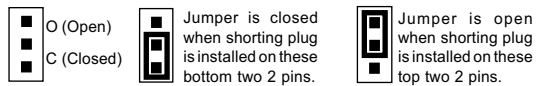

Figure 2 - Jumper Selections
**Continuous (maintained) trigger:** To playback a message recorded on Channel 1 or Channel 2, apply a positive (+) 9 to 14 Vdc to terminal **+V1** for Channel 1, or to terminal **+V2** for Channel 2. The message will play (and repeat) for as long as the power is applied, provided Jumper **JP2** ("Close For Single Play") is in the Open position. See Figure 2.
**Note:** Jumper **JP1** must be in the closed position (C) to enable the on-board microphone. In addition, jumper **JP2** should be in the open (O) position so that playback will be in the continuous Loop mode. See Figure 2.